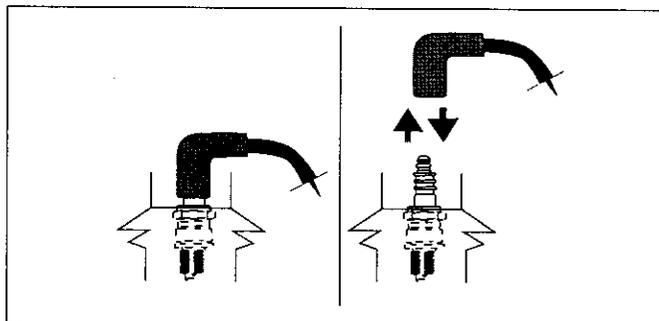

Figure 22. Disconnecting/Connecting Spark Plug
1. Disconnect spark plug wire and keep it away from spark plug. See "G. Avoid Accidental Starts" instructions on page 2. See Figures 22 and 23.